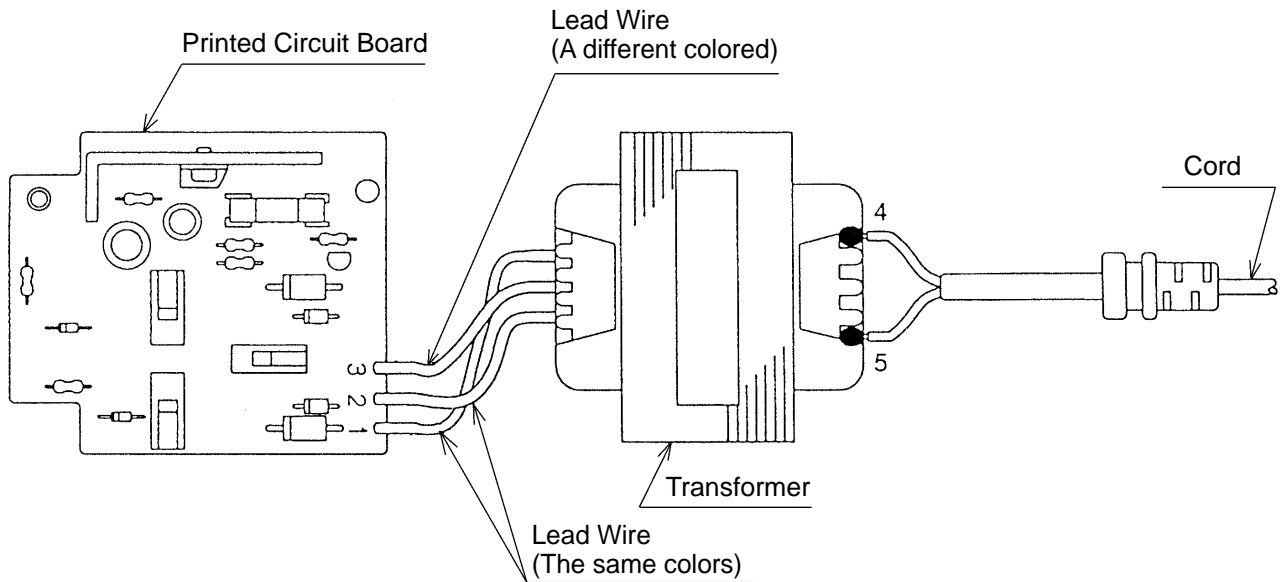

Fig. 3
- (1) Remove the four Screws (Plastic Tie) D4 x 20 **[5]**, and take off Case (B).
- (2) When the Transformer **[9]** is lifted upward, the Printed Circuit Board **[4]** and the Cord **[10]** can be removed together.
- (3) To separate the Printed Circuit Board **[4]**, Transformer **[9]** and Cord **[10]**, melt their soldered connections with a soldering iron at the points marked 1, 2, 3, 4 and 5 in Fig. 3. As excessive heat may damage the material of the Printed Circuit Board, use of the soldering iron should be limited to less than three seconds at one time.